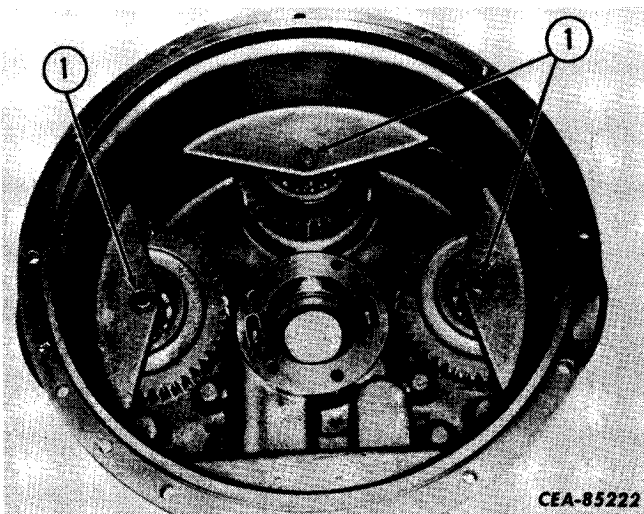

Figure 3-22
Remove the cap screws (3, Fig. 3-22) and clamp plates (1, 5) that fasten the pump drive gear (4) to the impeller wheel (2). Remove the pump drive gear.
Remove the bearing retainer cap screws (1, Fig. 3-22) from the housing webs. Slide out the driven gear assemblies.